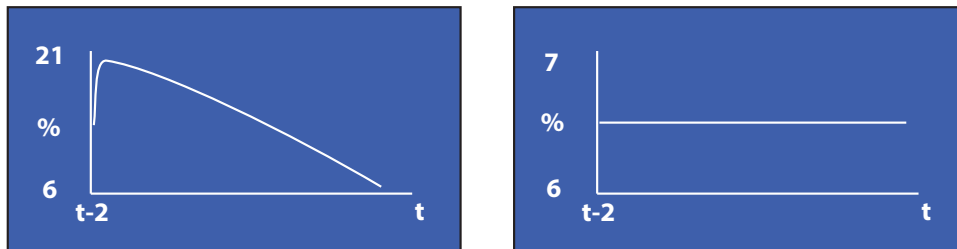

Figure 11 2 Point Calibration Page
- The XTC601 is designed to be panel or wall mounted. There are 2 bolt holes and 2 lugs (1 per corner) see *Figure 11*. Dimensional drawings can be found in Appendix B. Mount the analyzer before attempting to remove the lid.